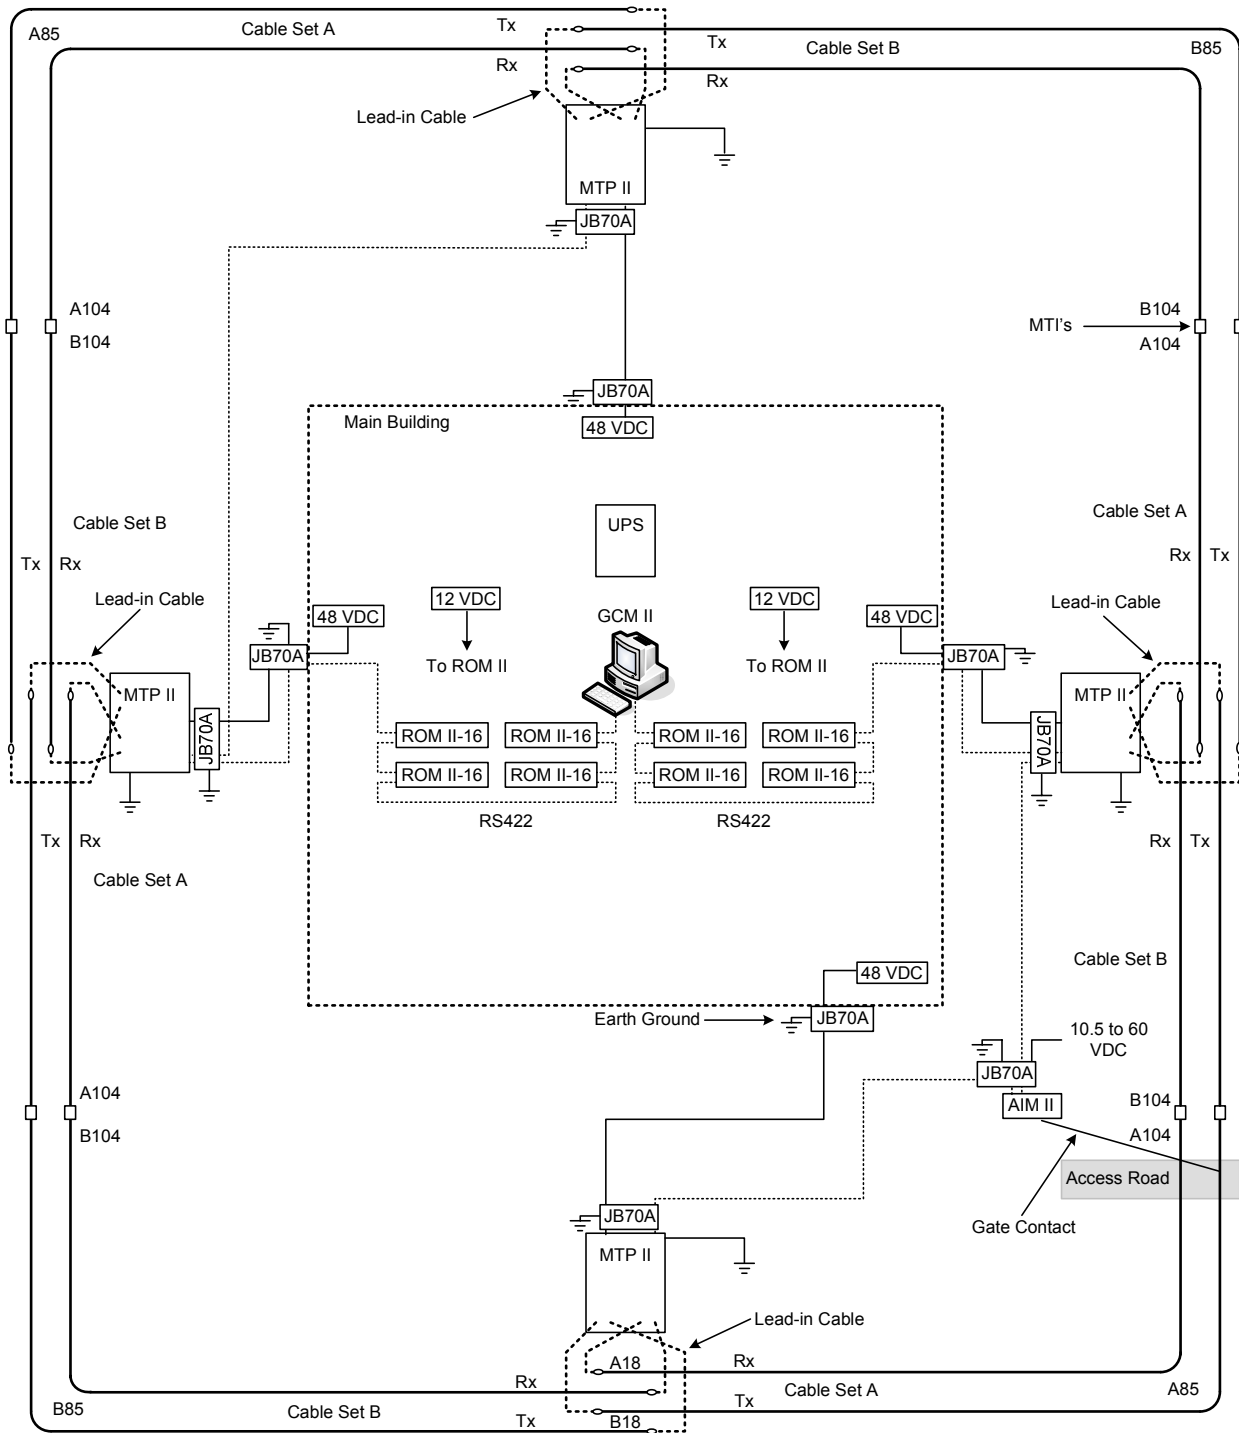

Figure 4.3 – Example of Multiple MicroTrack II Processors
Figure 4.3 shows an example configuration using four MTP II's. A Graphic Control Module II (GCM II) is used to communicate with the MTP II's, ROM II-16's and the AIM II. Each MTP II has a PS48 power. All power supplies and the GCM II are connected to the recommended UPS. Cable overlaps from the MTP II's are connected using the MTI (MicroTrack In-line Termination). Some typical items are shown such as: cable sets, subcell numbers, conduit runs, MTI's, and earth grounds. *Note: Individual component wiring has been purposely omitted as it is shown in each device's manual and in a later chapter. The A cables are overlapped with B cables and TX cables and RX cables are in the same trenches.*
Figure 4.3 also shows that the power and data wiring can be in the same conduit for a direct connection to the first MTP II. An alternative to the independent conduit wire runs is to include the power and data wiring in the same trench as the sensor cables. This would use a direct burial cable from such companies as Beldon, Alpha or any equivalent source. **Note: This wire can not be put in conduit in the same trench as the sensor cable.** Direct burial cable requires a sand base to prevent damage to the cable. *Note: Ferrite beads may be required on these lines.*
7. Insure that “A” cables are overlapped at the ends by “B” cables from the adjacent MTP II. (See Figure 4.3)
8. Insure that Transmit cables are in one trench and Receive cables are in the other trench around the entire site. (See Figure 4.3)